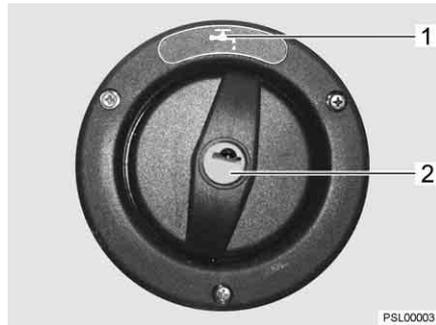
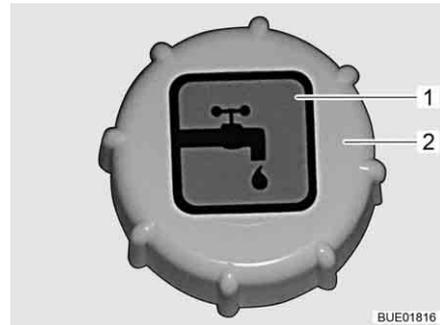

Fig. 71 Cap for the drinking water filler neck (Viseo)
Fig. 72 Cap for the drinking water filler neck (Elegance)
- ▷ The drinking water filler neck is indicated by the symbol "☞" (Fig. 71,1 or Fig. 72,1).
Opening and closing of the cap (Fig. 71,2 and Fig. 72,2) is described in section 10.2.